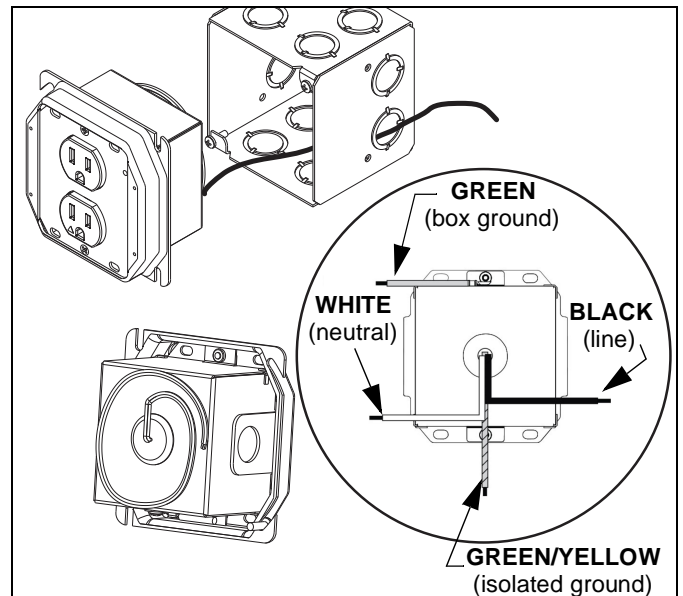

Figure 4
- Wire the outlet box as required. Refer to Table 1 and Table 2 for input and output specifications. (See Figure 4)